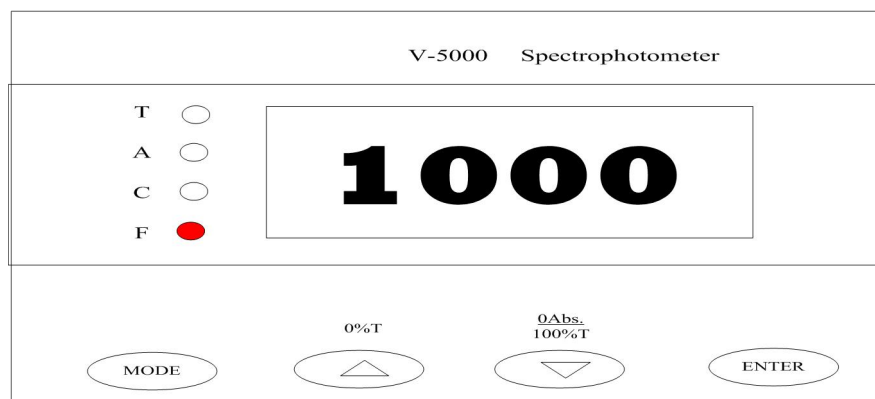
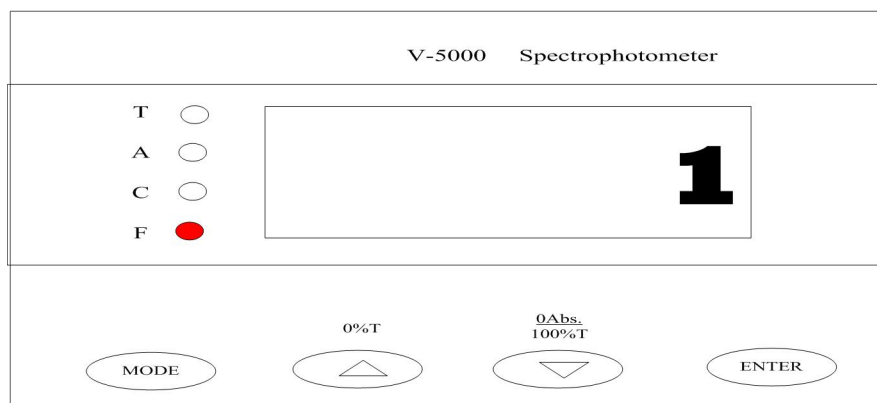

Fig.1-11
Fig.1-12
- b. To be used as the descending key (effective only in F mode). Press this key and the F value will decrease by 1 (Fig.1-11 & Fig.1-12). A long press will speed up the decrease. The Minimum Value of F is 1.